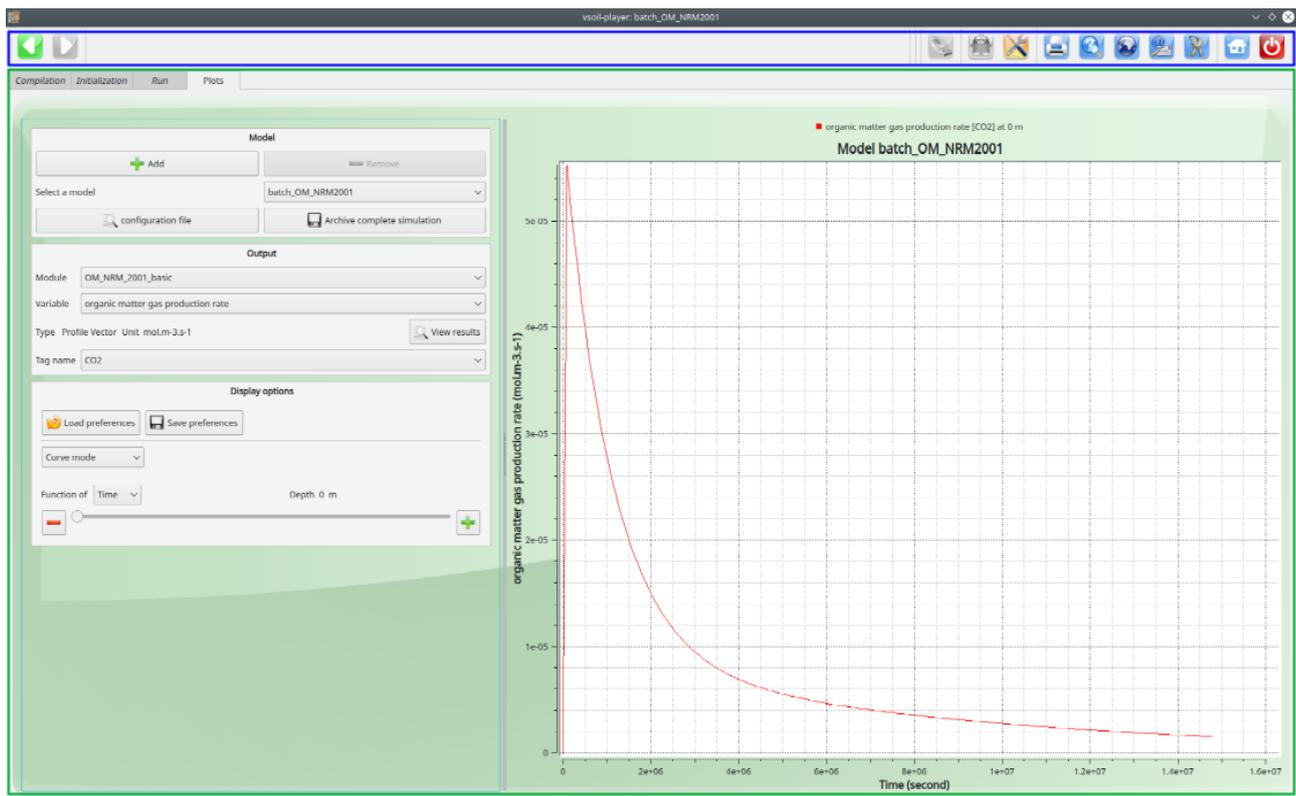

Figure 2: Workspace made up of the toolbar (blue rectangle) and a space for entering and viewing results (green rectangle)
After having selected one of the functions of the home screen, with the exception of the import, export, restore and archive functions (see figure 1), the workspace appears (see figure 2). It is divided into two main parts:
1. the upper part is formed by the toolbar (blue rectangle in figure 2) itself composed of two parts:
2. the lower part, dedicated to entering and viewing the results, is made up of the four tabs “Compilation”, “Initialization”, “Run” and “Plots” (green rectangle in the figure 2). These steps are similar in the “vsoil-modules”, “vsoil-models” and “vsoil-player” applications. Refer to the manual entitled “model usage user manual”, accessible from the “User manuals” section of the “vsoil-player” application’s home screen (see figure 1), for a description of these steps.